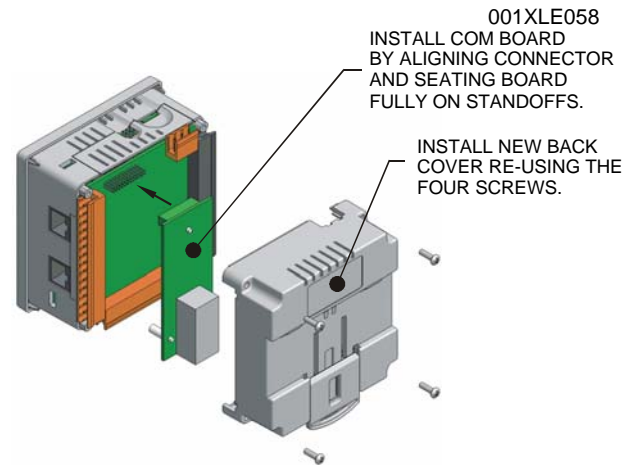

Figure 2 - Installing the COM Board in
3. Plug the communication board onto the 24-pin connector. Make sure all the pins are properly aligned (Figure 2).
5. Place the screw back into the hole and turn the screw slowly counter clockwise until it clicks into the threads. This prevents the screw from being cross-threaded. Now, turn the screw clock-wise until the cover is firmly secured. Repeat this process for all four (4) screws.